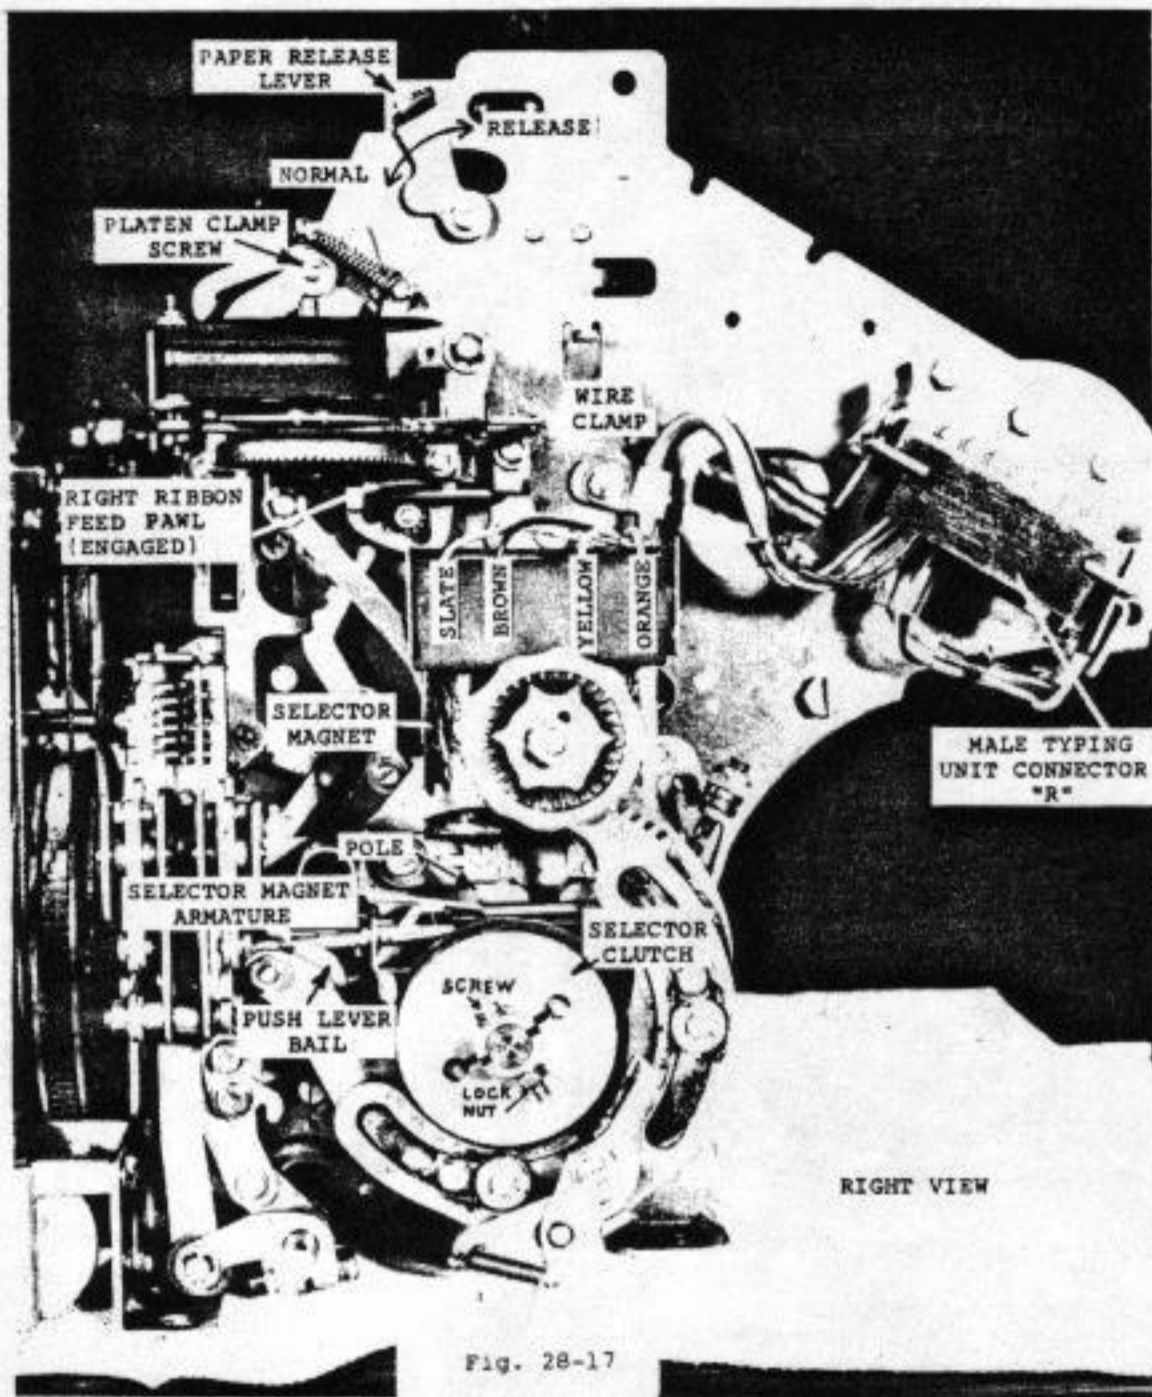

Fig. 28-17
Right side spool (engaged): Fig. 28-17
a) Check paper release lever for proper position (Fig. 28-17)
Oil may have accumulated between selector magnet armature and pole pieces (Fig. 28-17). Insert a dry piece of paper between the armature and pole to absorb and wipe off the oil film.
2. Remove screw in clamp that holds wiring to the Right frame (Fig. 28-17).
1. Remove the Platen clamp screw (Fig. 28-17 - right view).
1. Raise the push lever bail up and push inward on the bail (Fig. 28-17).
2. Remove screw and lock nut from the selector clutch, then rotate the clutch and pull it toward you to remove the clutch and cam sleeve (Fig. 28-17).